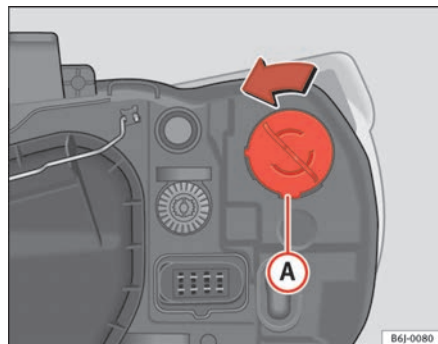

Fig. 151 Single indicator lamp
- Rotate the lamp holder ⇒ fig. 151 **A** to the left and pull.